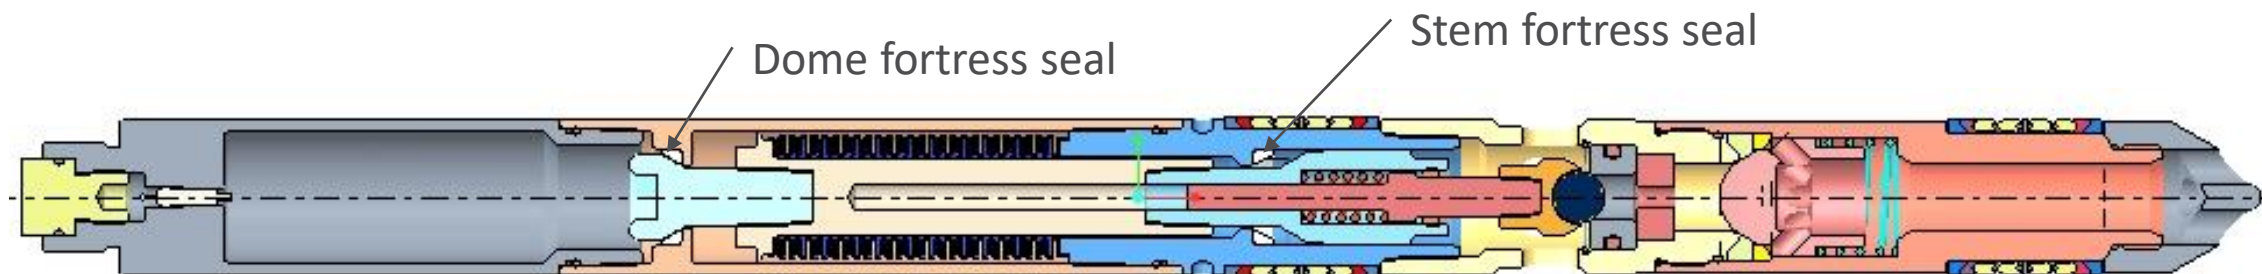

Figure 11
- Valve is using telescoping stem because two mechanical stops at a same time are impossible. Dome fortress seal is mechanical stop. See figure 11 below.